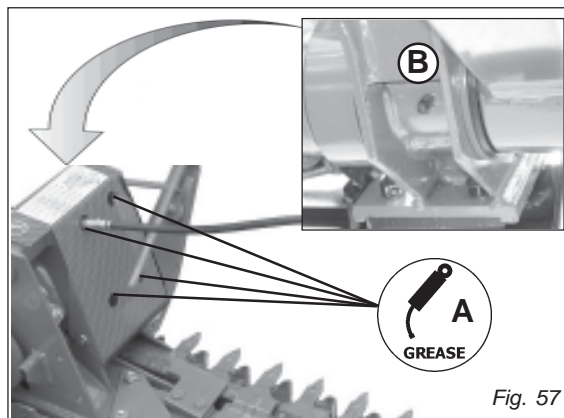

Fig. 57
- Grease points (A and B, Fig. 57).
- Grease point (A and B, Fig. 57).